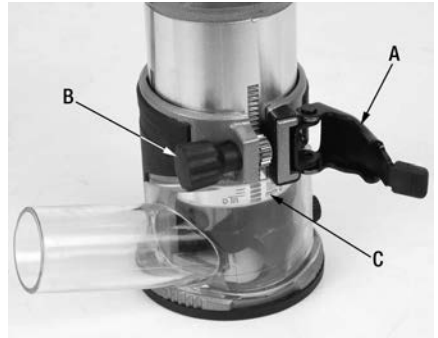

Figure 4
To adjust the protrusion of the installed bit (depth of cut), release the locking lever (A) Fig.4 and turn the adjustment knob (B) to move the body up or down. Now adjust the fixed base position until you reach your desired protrusion of the installed bit (depth of cut) past the bottom of the fixed base. This adjustment can be done using the scale (C) on the body. Once depth of cut is set, secure the locking lever (A).